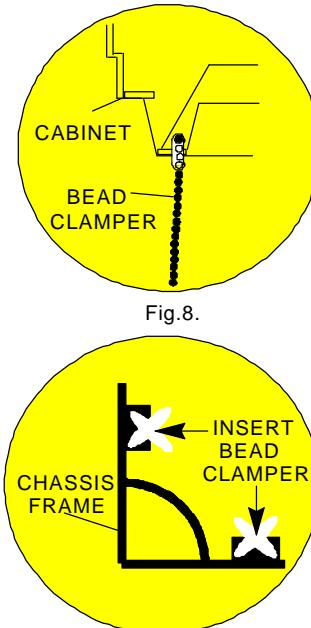
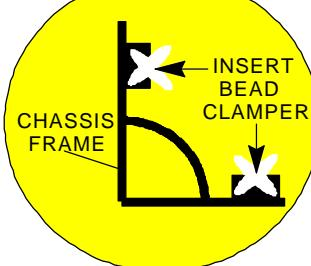

Fig.8.
Fig.9.
- ii. Insert the beadclamper located in the bottom left hand corner of the cabinet (Fig.8.) into the chassis frame shown in Fig.9.
- ii. Insert the beadclamper located in the bottom left hand corner of the cabinet (Fig.8.) into the chassis frame shown in Fig.9